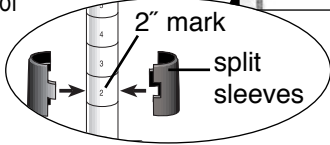

Figure 1a
- Assemble plastic split sleeves onto 2" mark on all posts (see *Figure 1a*).